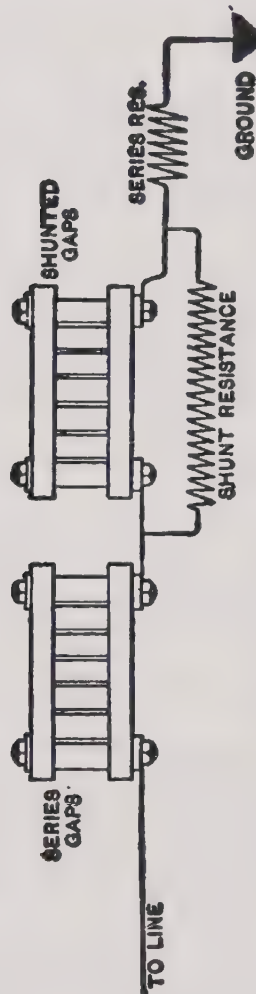

Fig. 40. Arrangement of Arresters and Resistances for High Voltages.
[In Fig. 40 is shown the beginning of the "new idea" in lightning arresters which will be discussed at length further on.]
*Question 20.* How does the non-arcing arrester in Fig. 40 operate?